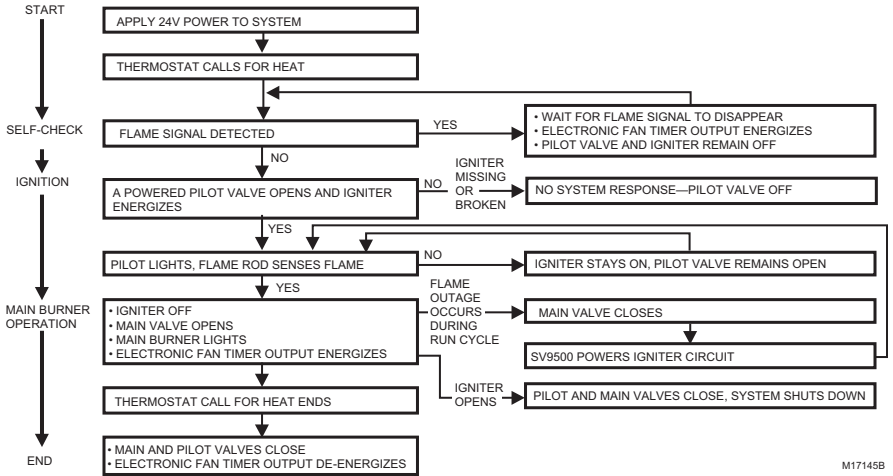

Fig. 13. SV9500/SV9600 SmartValve™ System Sequence of Operation.
8. Follow the Operating Sequence and Troubleshooting flow charts as shown in Fig. 13 and 15 for the installed SmartValve™ SV9500/SV9600 to make sure replacement is necessary.